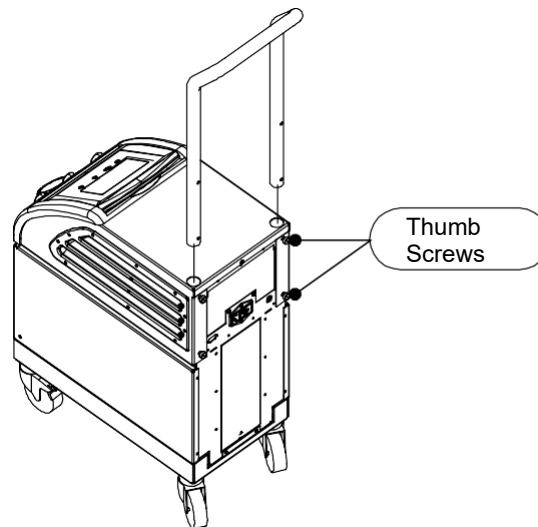

Figure 12: Handle Assembly
- b. Slide the two ends of the handle into the holes in the top cover (pay attention to the direction of the curve in the handle) until the handle is inserted all the way in (see Figure 12).